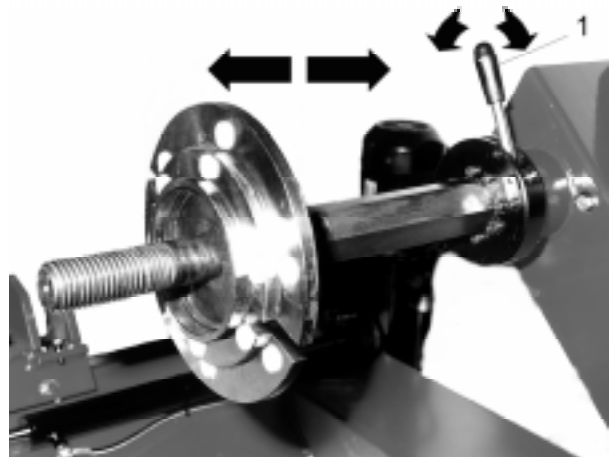

Fig.16
- F.** The hexagonal shaft can be locked in 3 different positions. Operate the chuck shaft lock/release lever (#1 Fig.16) and slide axially the shaft.